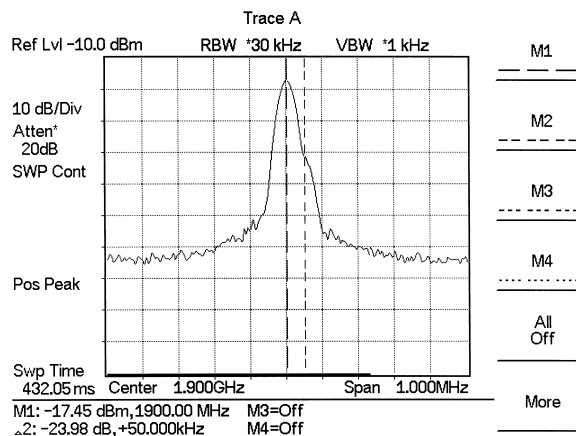

Figure 4-6. Measurement of Two Signals Having Unequal Amplitudes
Step 1. Change the resolution bandwidth to 30 kHz. Figure 4-6 shows the results after changing the RBW using a signal combiner/splitter with a loss of 6 dB.